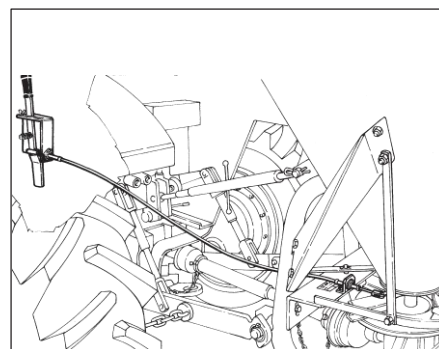

Fig.13
- Mechanic remote control (Fig.13)